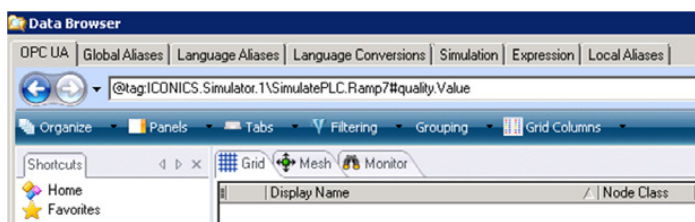

Figure 1 - Adding EPS Syntax Manually in Data Browser
5. Duplicate the Text and PPT object and browse for the same tag again, but now you will modify the existing point syntax by clicking the Edit field at the top and adding special EPS syntax, as shown on Figure 1.